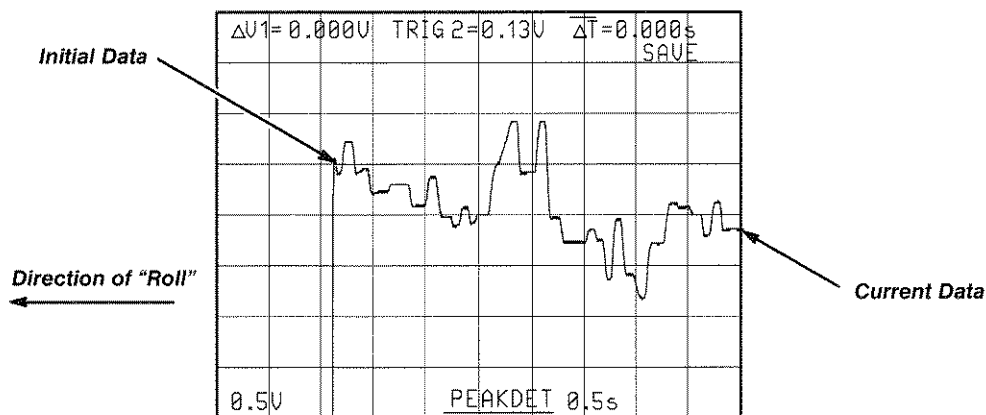

Figure 3-7: Roll Mode
- ☐ **Step 4:** Note that the trace “rolls” across the screen from right to left (Figure 3-7) and does not permit any trigger event to interrupt the display.